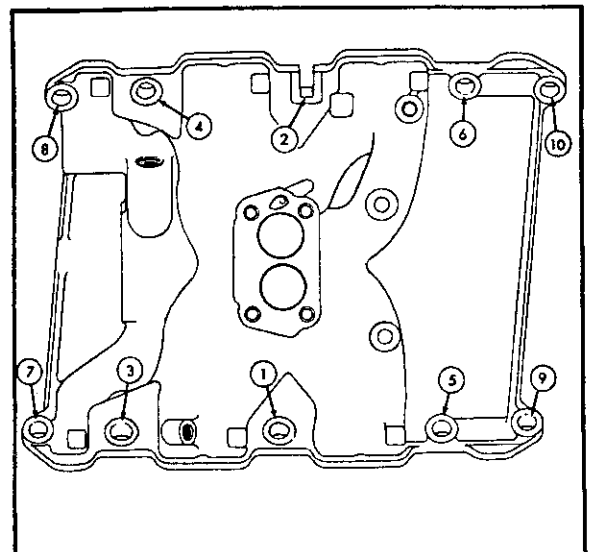

FIG. D1-45—INTAKE MANIFOLD BOLT TIGHTENING SEQUENCE
d. Install remaining manifold-to-cylinder head bolts, with longer bolts at forward location. Beginning with the number 1 and 2 bolts, see Fig. D1-45, tighten gradually and equally until both bolts are snug. This will prevent the manifold from shifting due to full torque being applied to only one bolt. Then continue in the sequence illustrated in Fig. D1-45 until the rest of the bolts are also snug. Finally, using the same sequence, torque all bolts to 45 to 55 lb-ft. [6,2 a 7,6 kg-m.].